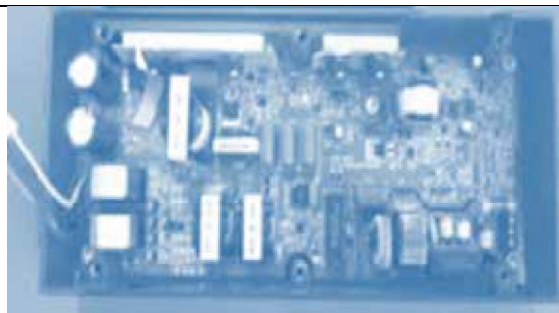

Fig. 2.26: PCB
Step 2. The driver PCB is placed properly inside the PSU cover and its screw is tightened with the help of washers. It is shown in Figure 2.26.